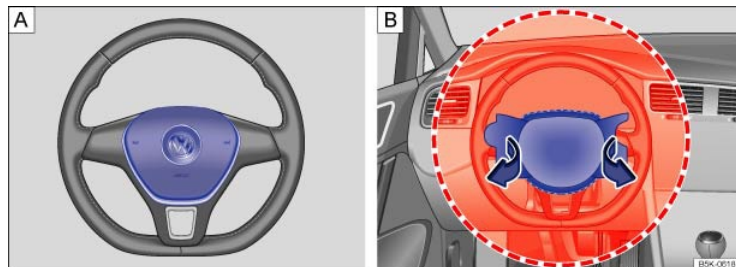
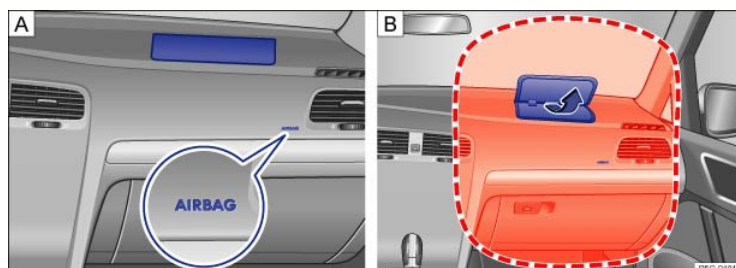

Fig. 70 Location and deployment zone of the driver front airbag.
Fig. 71 Location and deployment zone of the front passenger front airbag.
The vehicle is equipped with an Advanced Airbag System in compliance with the United States Federal Motor Vehicle Safety Standard (FMVSS) 208 or the Canadian Motor Vehicle Safety Standard (CMVSS) 208 applicable at the time your vehicle was manufactured. The airbag for the driver is in the steering wheel hub ⇒ Fig. 70  and the airbag for the front passenger is in the instrument panel ⇒ Fig. 71 . The general location of the airbags is marked AIRBAG.
The areas marked in red (dotted lines) ⇒ Fig. 70  and ⇒ Fig. 71  indicate the airbag deployment zone. Never place or attach accessories or other objects (such as cup holders, telephone brackets, note pads, navigation systems, large, heavy or bulky objects) on the doors, on the windshield, over or near the area marked in red (dotted lines).
- Never place accessories or other objects (such as cup holders, telephone brackets, notepads, navigation systems, or things that are large, heavy, or bulky) on the doors or attach them to the doors; never place them over or near the area marked AIRBAG on the steering wheel, instrument panel, or seat backrests, or between those areas and someone in the vehicle ⇒ Fig. 70 and ⇒ Fig. 71. Such objects could cause serious injury in a collision, especially if an airbag inflates.